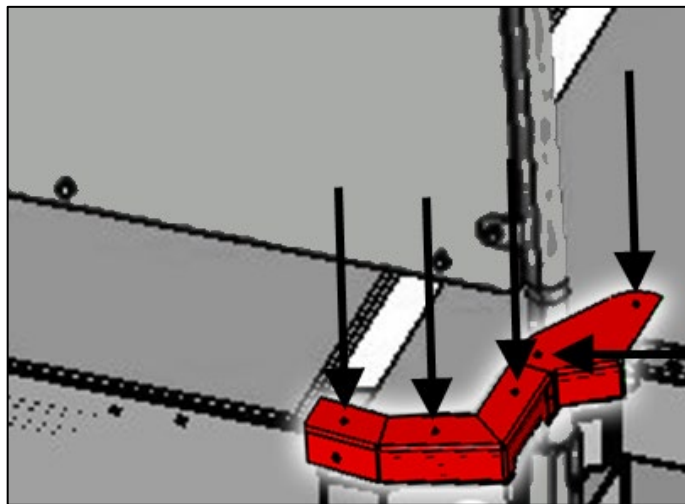

Figure 2
2. On the step nosing, install new replacement hardware 5x 5001119, at indicated locations. (Fig. 2)